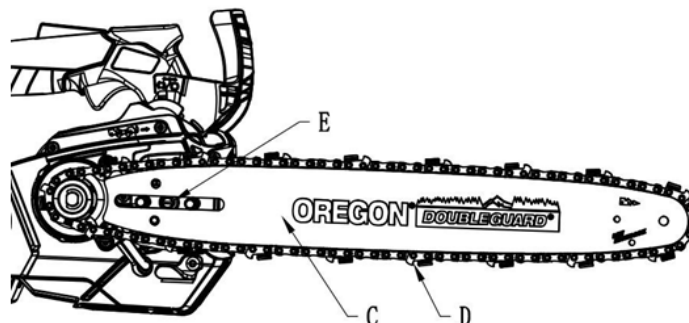

Fig 7
4. Adjust the chain tension adjuster (E) and assemble the bar (C) and chain (D) as shown in Fig. 7.